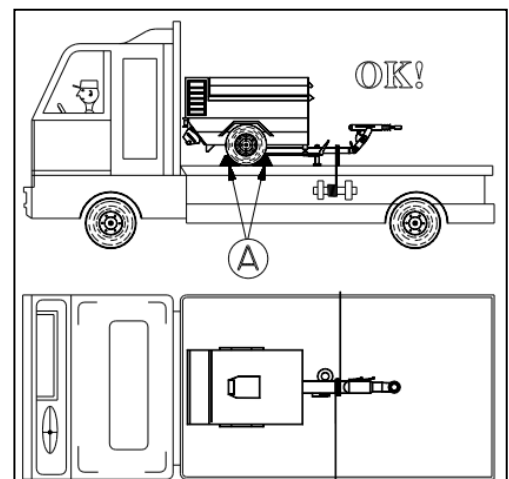

Figure 6.1-1 Instruction for towing in safe conditions
- 4) Set two wedges (Part A Figure 6.1-1) on each wheel, attaching them to the vehicle floor, in order to prevent the machinery from moving. Utilize wedges of appropriate sizes, both in height and in width.